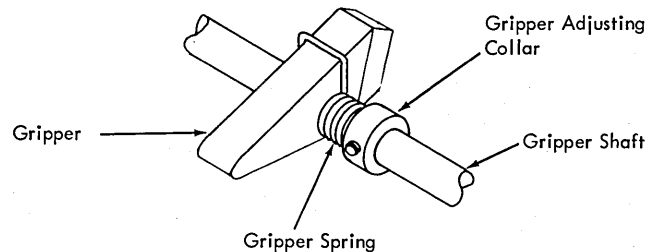

Figure 4-95. Gripper Tension Adjustment
*Gripper-Tension Adjustment:* Adjust the gripper spring tension to ensure constant contact between the gripper and the feed-guide plate. Adjust by rotating the adjusting collar clockwise until light tension is exerted. This condition is approximately attained when the collar locking screw is horizontal (Figure 4-95).